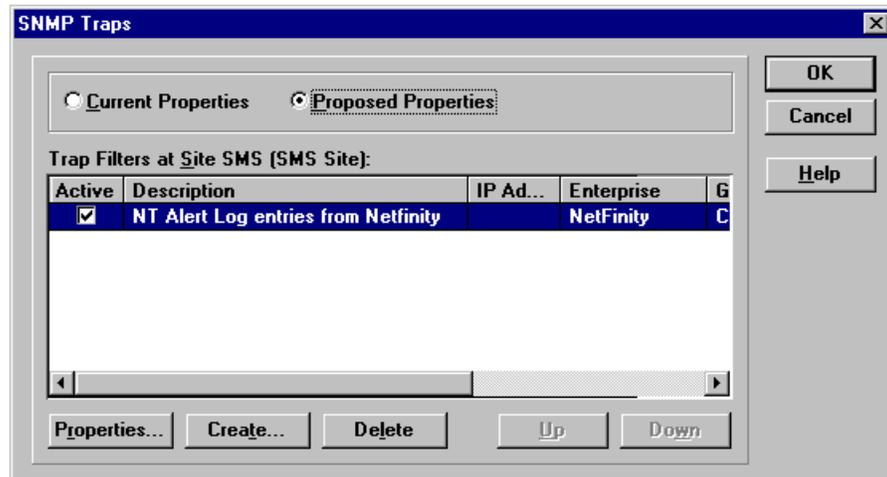

Figure 150. SNMP Trap Filter setup for a keyword
4. Click on the **SNMP Trap** icon to bring up the TRAP file You can see this window in Figure 150 on page 195. This window also show the filter after setup.